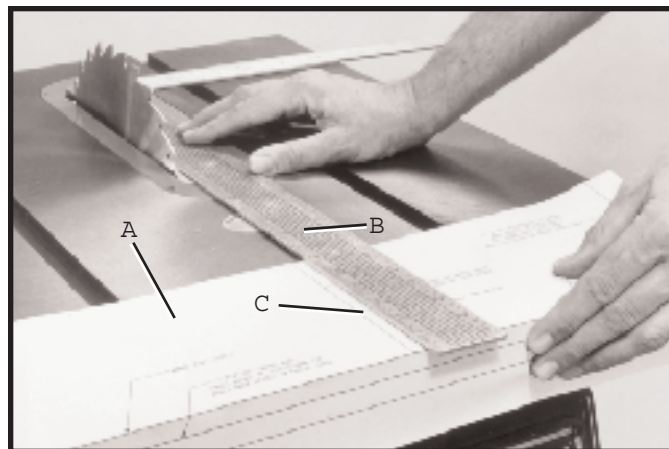

Fig. 20
7. Slide template (A) Fig. 20, left or right, along the table until the line (C) on the template marked lineup with right side of blade is aligned with the left edge of the straight edge (B). Make sure the fold in the template is along the top front edge of the table and tape the template to the table.